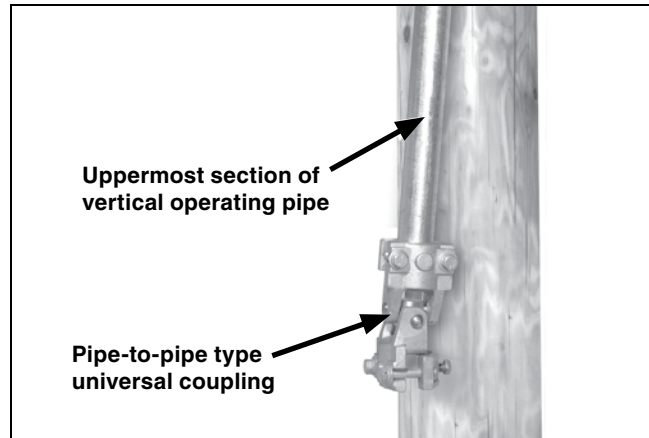

Figure 28. Attach the pipe-to-pipe type universal coupling to the lower end of the vertical operating pipe.
STEP 25. Attach a pipe-to-pipe type universal coupling to the lower end of the uppermost section of vertical operating pipe. See Figure 28. Back the piercing set screw out of the body of the pipe coupling before tightening the coupling clamp bolts.